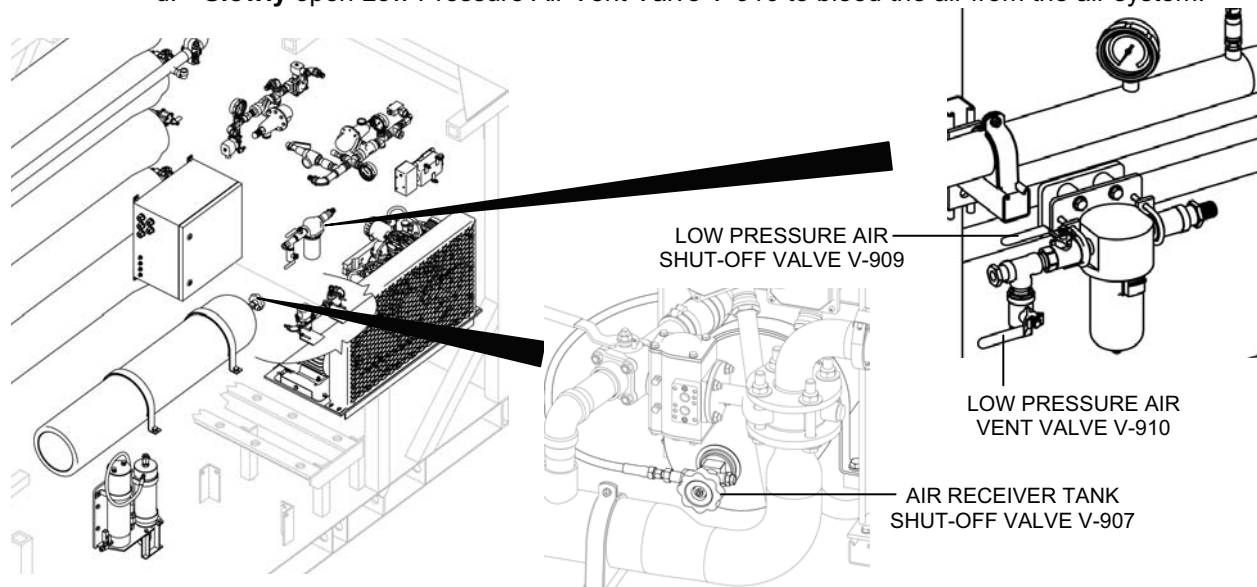

Figure 1. Valves for Bleeding the Air System.
1. Open the cover to the OCP (see Figure 1).
2. Bleed the air system as follows (see Figure 1 for valve location):